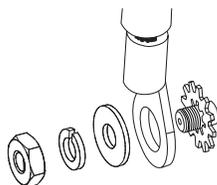

Fig. 21, Hardware Stack Up
6. Connect the power supply external ground connection to the rack ground stud Δ in Fig. 18. Follow the proper stack up (Fig. 21) to attach the supplied #10-32 nut, lock washer, flat washer, and supplied ground wire.